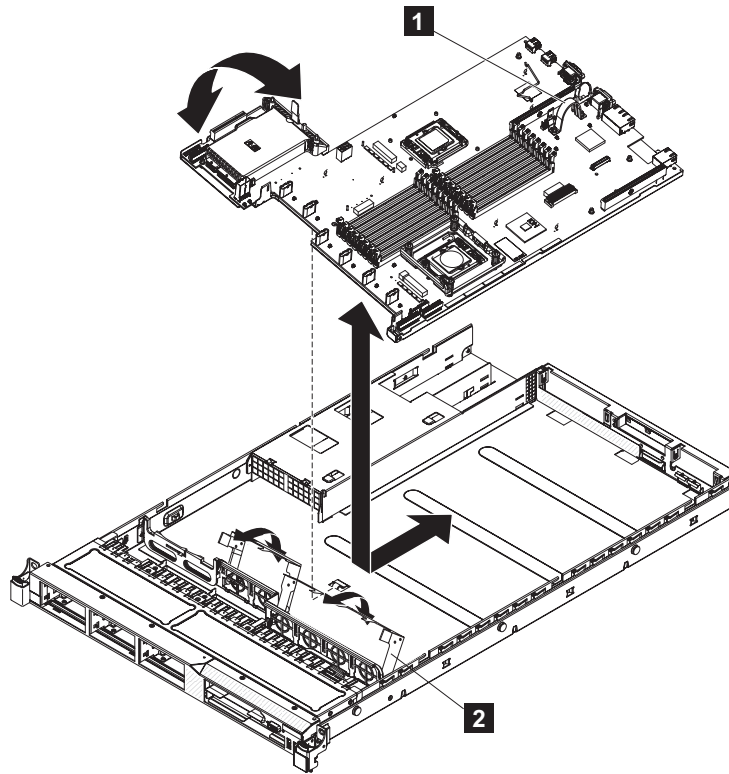

Figure 264. Removing and replacing the SAN Volume Controller 2145-CF8 system board
17. Grasp the system board handle (**1** in Figure 264 on page 283) and slide the system board away from the back of the node. Lift the side of the system board that is nearer to the power supply units slightly so that it disengages from the locator pin; then, slide the system board slightly toward the left of the node, as shown in Figure 264 on page 283.